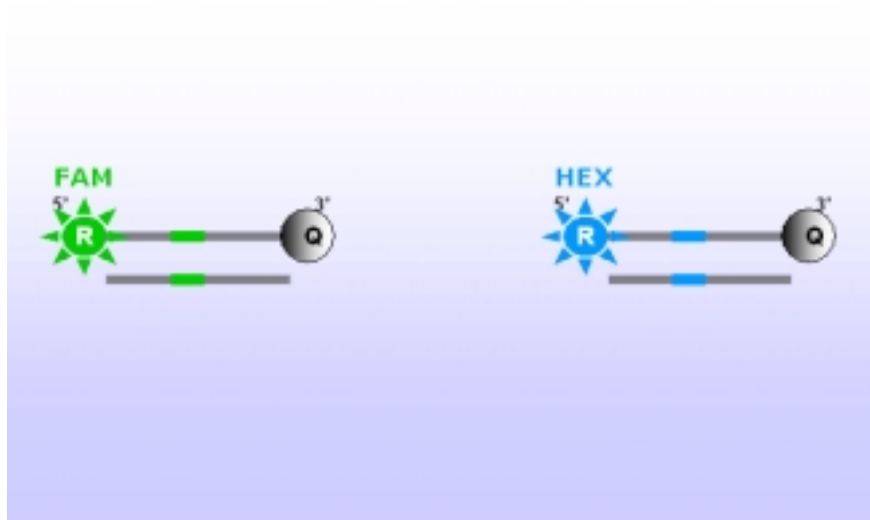

Fig. 1
The kit takes advantage of an Oligo Mix containing a *Mycoplasma genitalium*'s specific probes linked at its 5'-end to a FAM molecule (6-carboxyfluorescein). In addition to this, the Oligo Mix contains internal control (IC) specific probes, linked at its 5'-end to a HEX molecule (hexa-chloro-fluorescein). The two probes have at their 3'-ends a quencher called BHQ-1 (fig.1). If excited, the integral probe does not emit fluorescence, because the closeness of the quencher to the reporter prevents this last from emitting fluorescence (quenching effect).